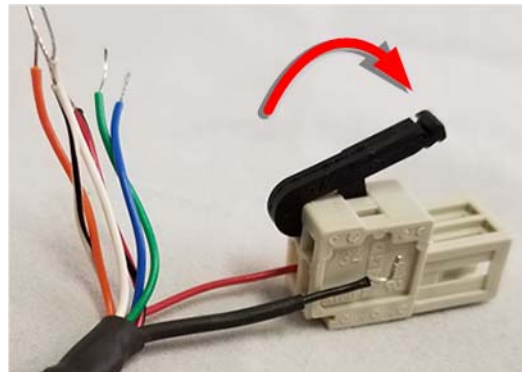

Figure 2-15. Use Clamp Tool to Open Plug for Wire
3. Insert the “legs” of the clamp tool into the clamp spring tension release opening of the terminal plug, as shown in Figure 2-15. There is one opening on the front and one on the top.